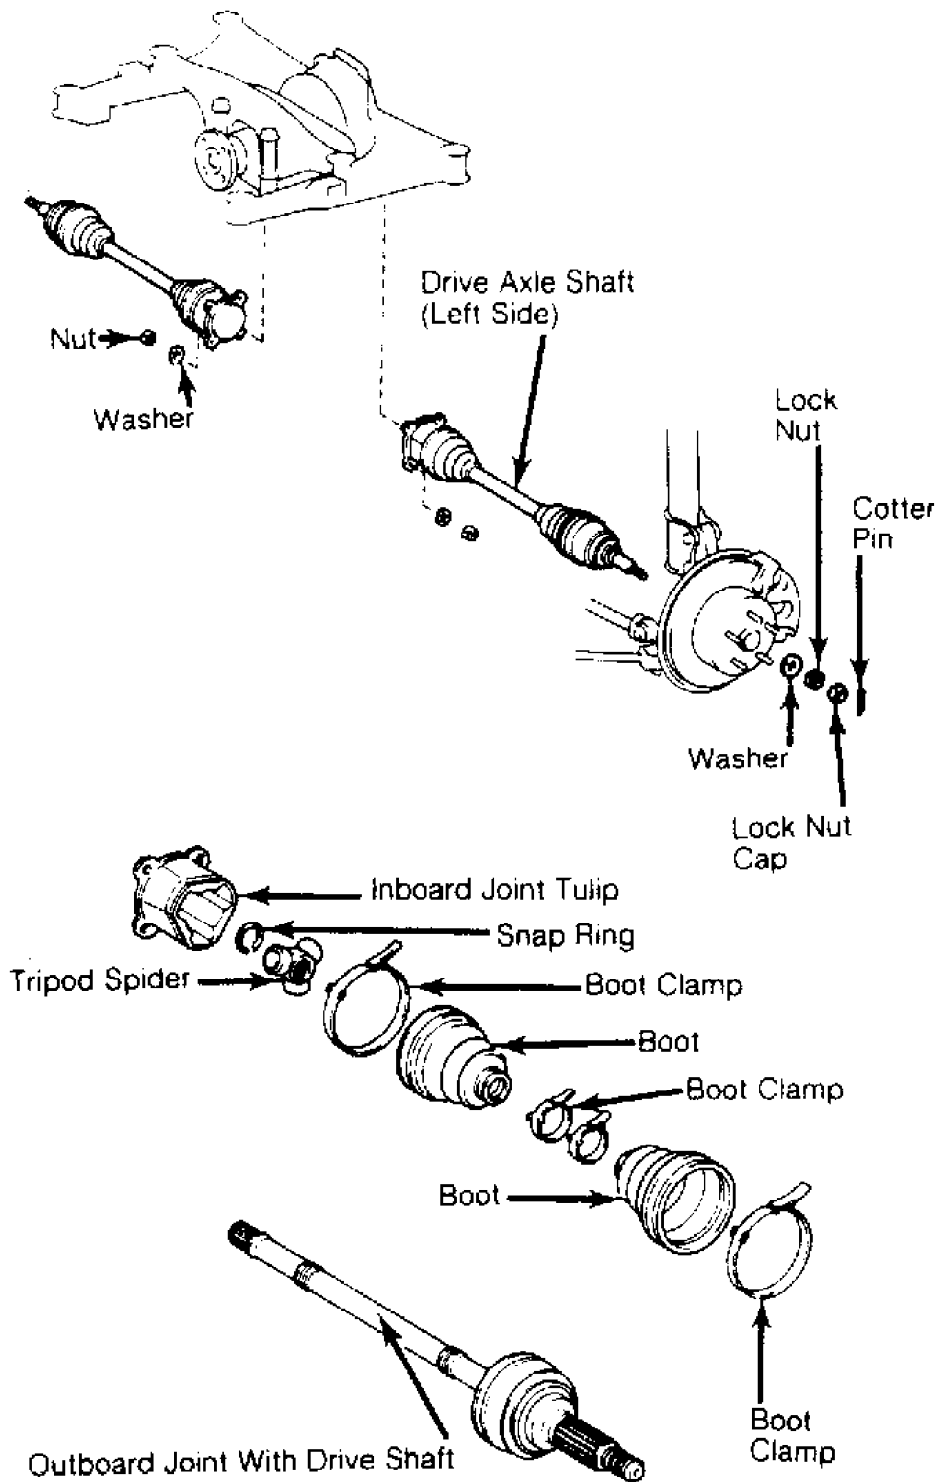

Fig. 1: Identifying Rear Axle Shaft Components
Raise and support vehicle. Remove rear wheels. From center of disc brake hub, remove cotter pin and lock nut. See Fig. 1. Place match marks on inboard axle shaft flange and differential flange. Remove nuts (4) securing axle shafts to differential flange. Disconnect axle shaft from differential. Slide axle shaft out of wheel hub and remove from vehicle.
1) Remove inboard joint boot clamps and slide boot off of inboard joint tulip. See Fig. 1. Paint match marks on inboard joint tulip and axle shaft. Remove inboard tulip from axle shaft.